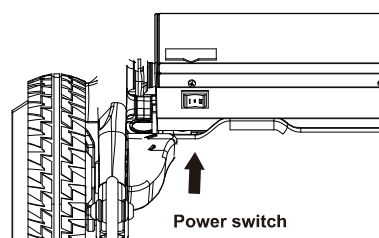

fig. 5
5.2.1 Connect the plug of the controller to the battery (fig5).